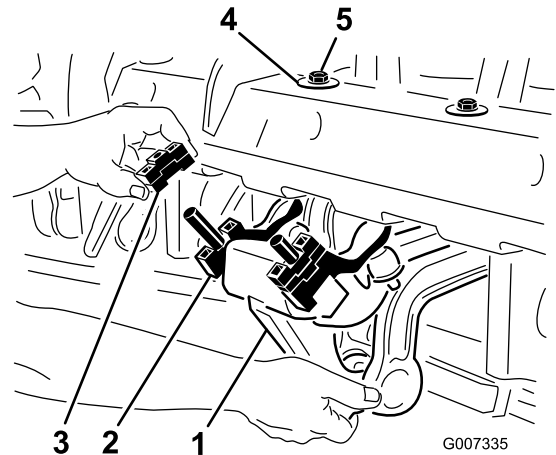

Figure 26
1. Remove the 2 locknuts (1/2 inch) securing the rotalink damper assembly to the underside of the coring head frame (Figure 26).
2. Lower the damper assembly to expose the spacers (Figure 26).
4. Assemble the damper assembly to the coring head frame again. Ensure that the D washer is installed against the coring head frame as shown in Figure 26. Secure the 2 locknuts.